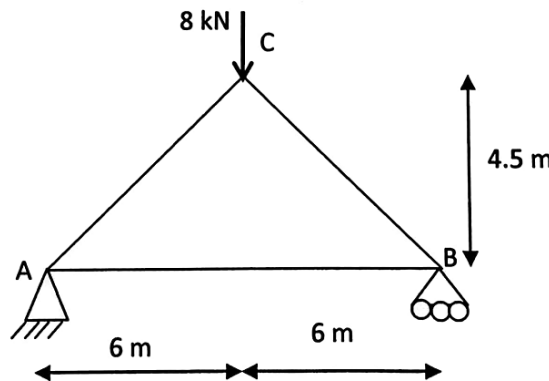

Fig.3
Q.3 Two rod AC & BC are hinged at C and carrying a load of 80 kN at C as shown in fig.3. Determine vertical & horizontal deflection at joint C. area of $AC = 1000 mm^2$ & of $BC = 1500 mm^2$ $E = 210 GPa$ 13